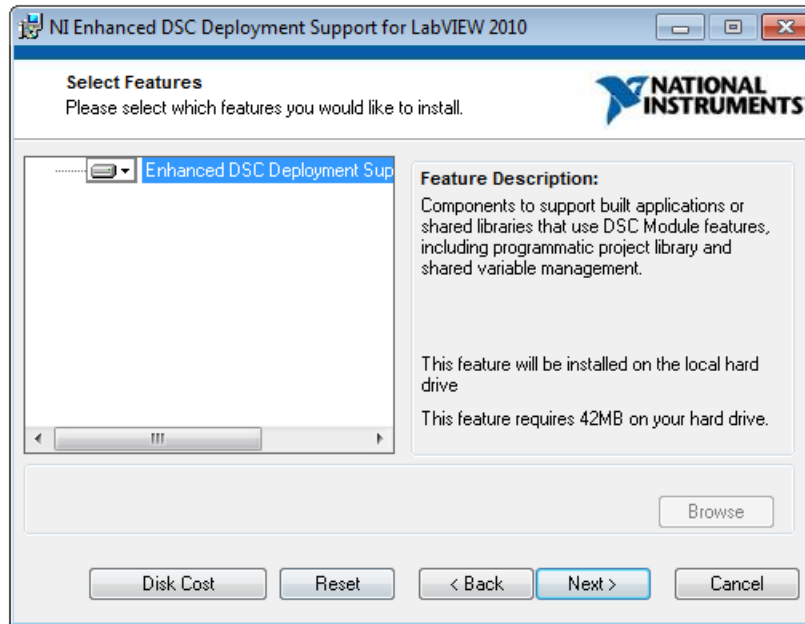

Figure 25. LabVIEW RTE Select Features
3. A window as shown in Figure 25 appears. Select the desired features in Run-Time Engine, then click the *Next >* button to continue. TI recommends keeping the default values as provided in the installer.